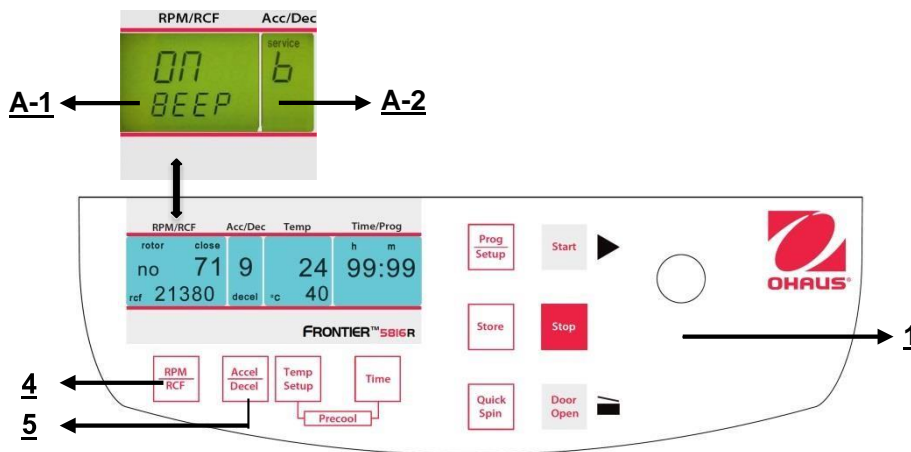

Figure. 38
Proceed as described under point 4.1.1 to enter this program mode and then press the key "Accel/Decel" (5). In the display "Acc/Dec" (A-2) the word "Service" flashes. Now select the letter "B" with the adjusting knob (1). As a result, in the display "RPM | RCF" (A-1), the word "ON/BEEP" appears. After pressing the key "RPM | RCF" (4), you can turn the keyboard sound (On) or (Off) with the adjusting knob (1). (See figure 38).